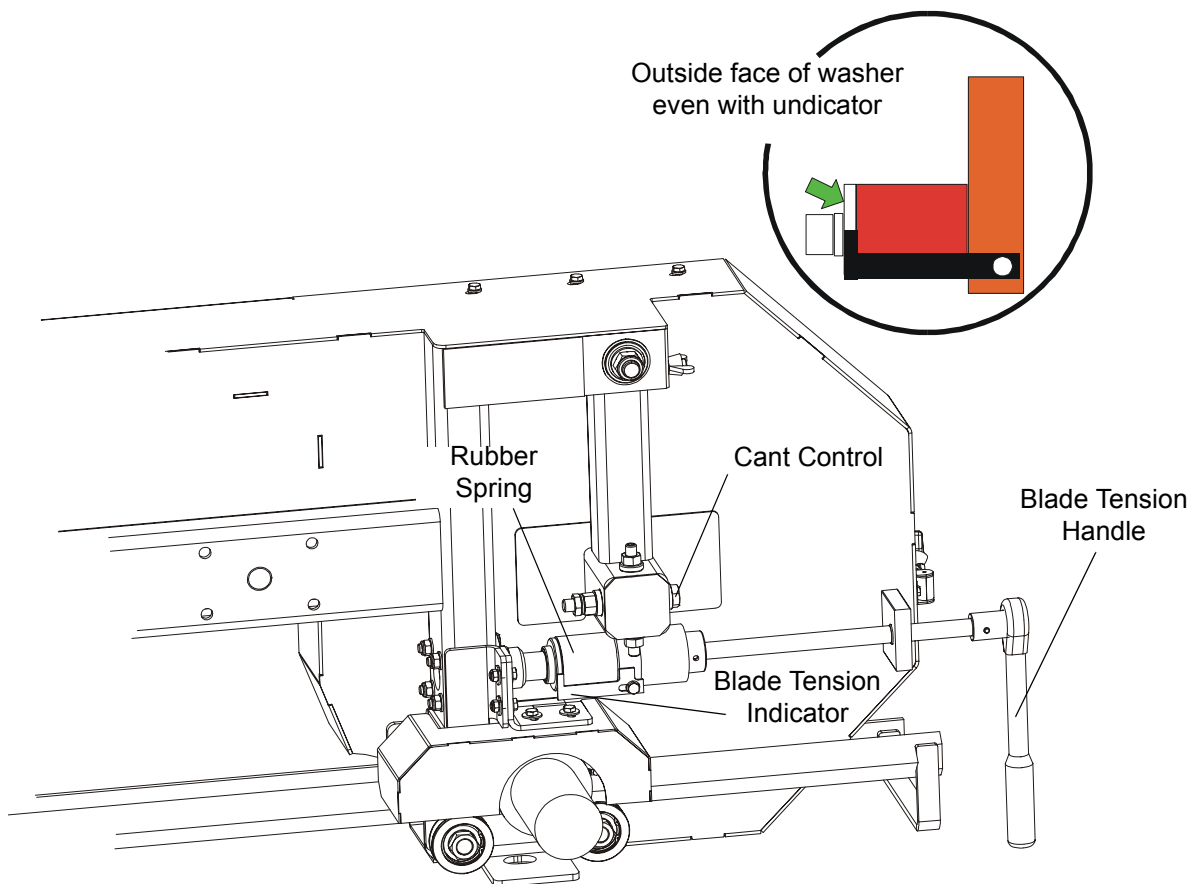

FIG. 2-8
**See Figure 2-8.** Turn the blade tension handle clockwise to compress the rubber spring and tension the blade. Check the blade tension occasionally when adjusting the cant control or while cutting. As the blade and belts heat up and stretch, the blade tension will change. Also, ambient temperature changes can cause tension to change. Adjust the tension handle as necessary so that the indicator is parallel to the blade guide arm.
5. Use the cant adjustment bolt, shown in **Figure 2-8** to adjust where the blade travels on the blade wheels.